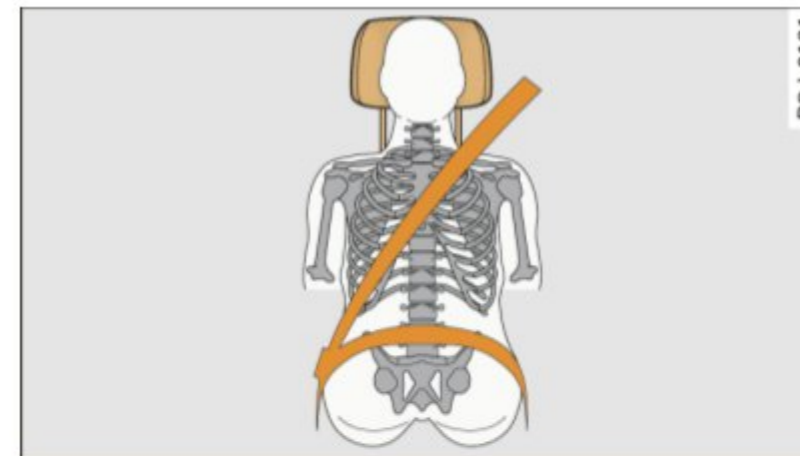

Fig. 165 Head restraint: viewed from the front
- Adjust the head restraints so the upper edge is as even as possible with the top of your head. If that is not possible, try to adjust the head restraint so that it is as close to this position as possible ⇒ *fig. 165*. ▶